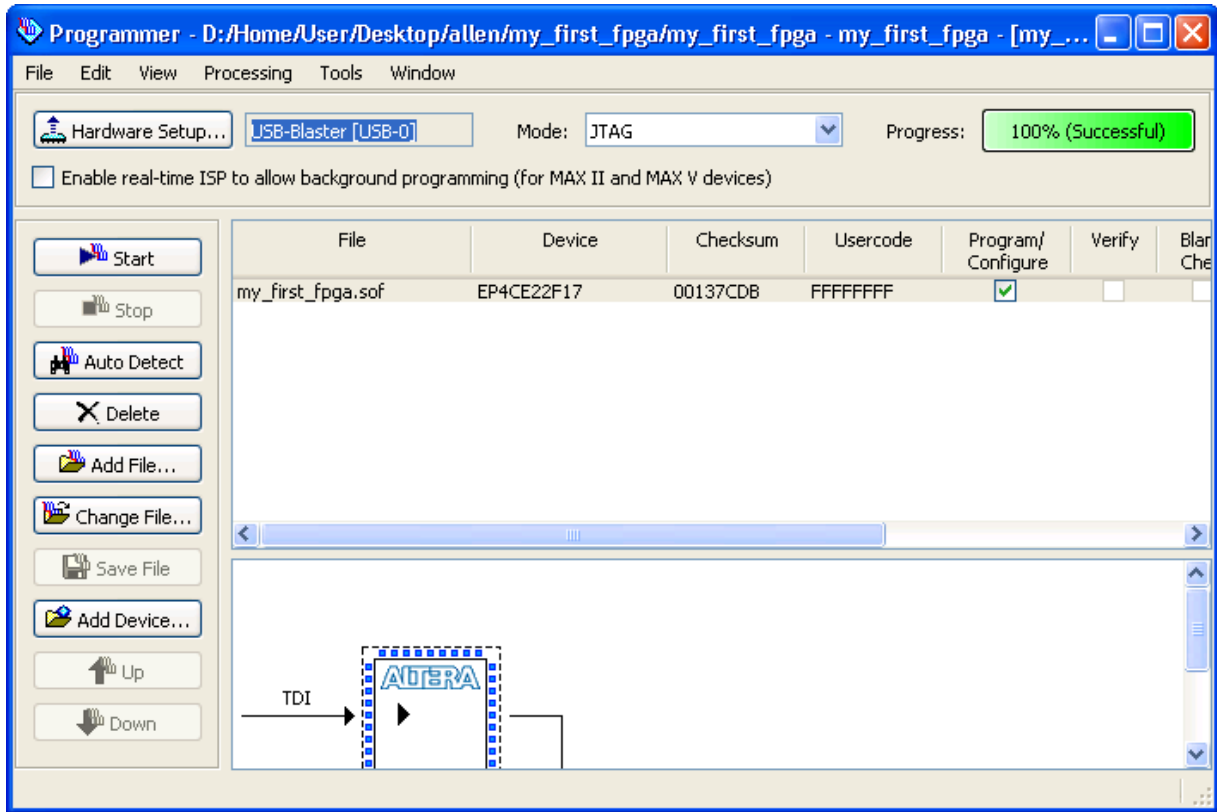

Figure 6-48 Downloading Complete
6. Select the my_first_fpga.sof file from the project directory (see **Figure 6-48**).